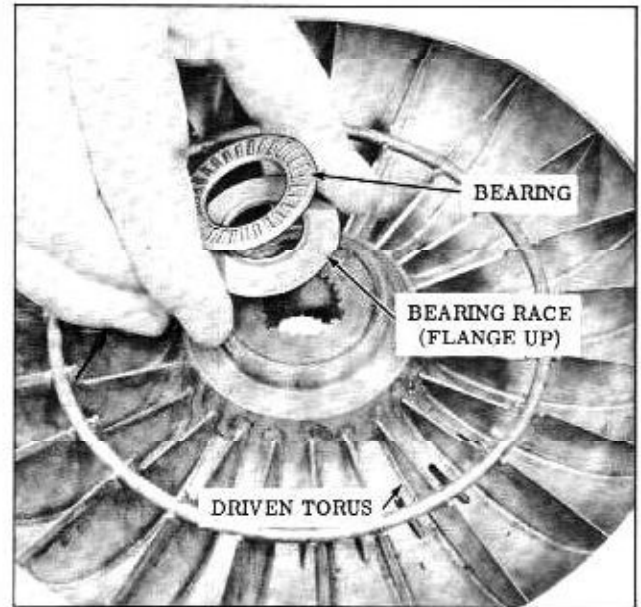

Fig. 3-122 Installing Race and Bearing
6. Install flanged race into driven torus (flange side up). (Fig. 3-122)